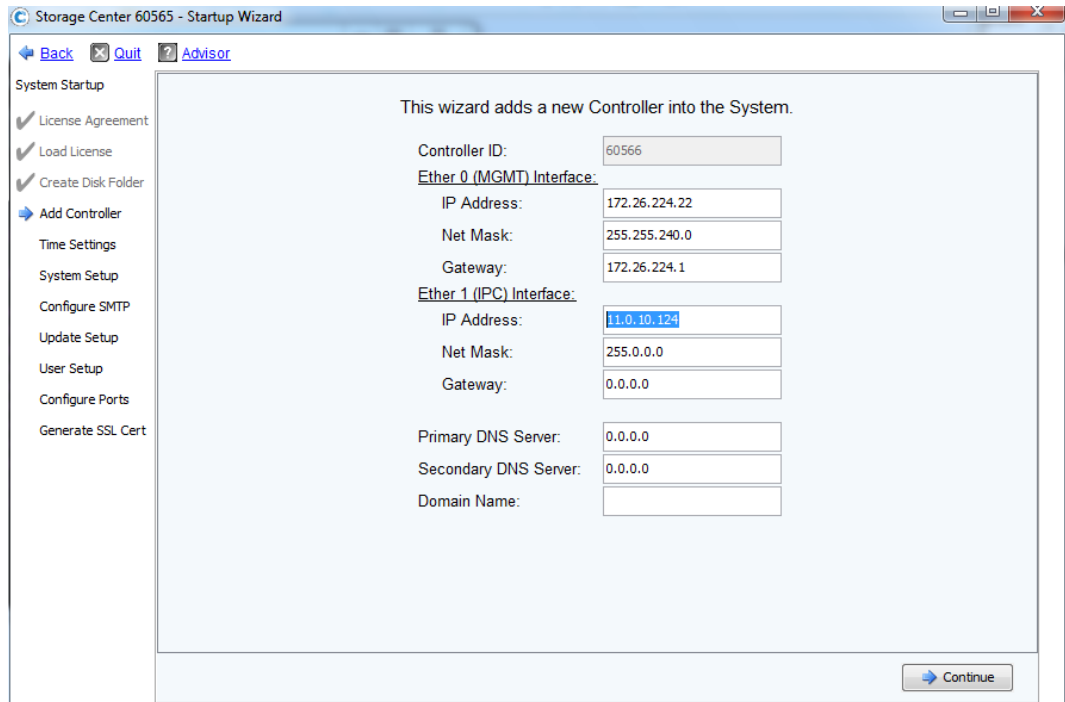

Figure 20. Provide the Ether 1 (IPC) Interface IP address
2. Type an IP address in the **Ether 1 (IPC) Interface** text box, and then click **Continue**, as shown in Figure 20. To find the IP address, run `controller show` on the second controller.